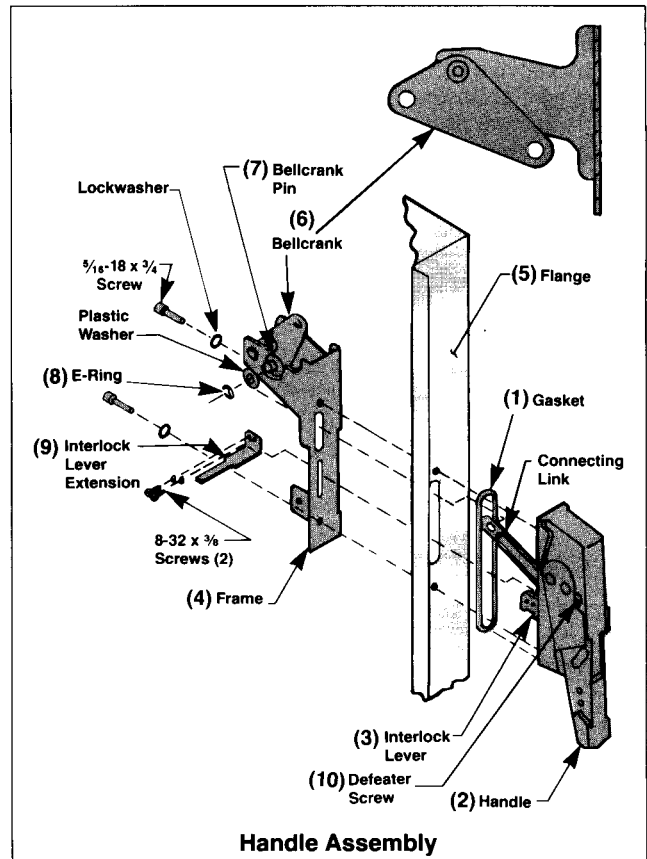

Figure 3
- C. Mount the frame (4) and handle assembly to the enclosure flange (5) using two 5/16-18 x 3/4 in. button head cap screws and lockwashers. Tighten cap screws from within enclosure (Figure 3).
D. Place the plastic washer and connecting link onto the bellcrank pin (7). Secure the connection with the E-ring retainer supplied (8) (Figure 3).
E. Attach the interlock level extension (9) to the interlock lever using two #8-32- $\frac{3}{8}$ in. screws and #8 lockwashers. Screws mount through the threaded lever extension into the lever. Tighten to 25 in.-lb. (Figure 3).
When the enclosure door is open, the operating handle cannot be moved from the OFF to ON position without deliberately defeating the interlock mechanism. In the OFF position, the interlock can be defeated by pushing the interlock lever extension downward while moving the handle to the ON position. With the enclosure door open and the handle in the ON position, the interlock can be defeated by turning the defearer screw (10) (Figure 3) on the operating handle. When the enclosure door is closed, the door latch mechanism automatically defeats the interlock.